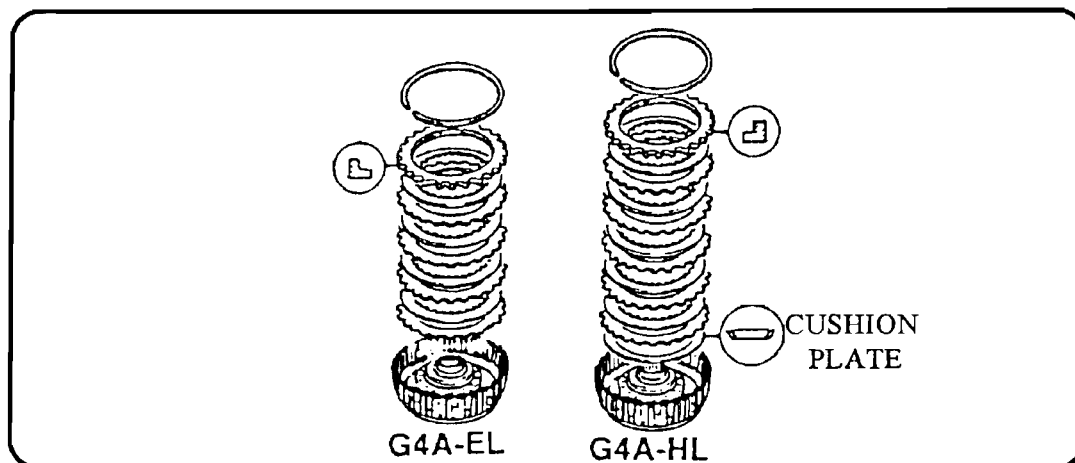

Figure 1.
**The 3-4 Clutch Drum** In the G4A-EL (Mazda 626 and Probe vehicles) uses 5 lined clutch plates, 5 steel plates, and no cushion plate against the piston. The G4A-HL (Mazda 323 vehicles) use 4 lined clutch plates, 4 steel plates, and 1 dished cushion plate against the piston. See Figure 1.